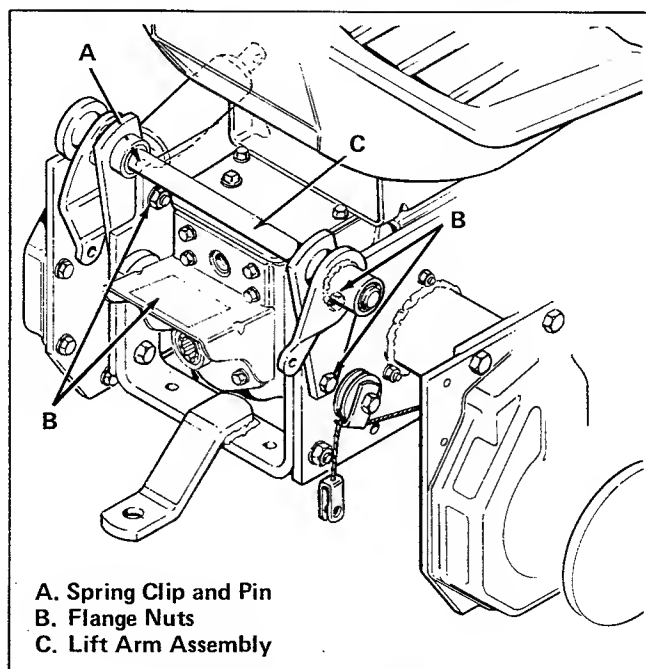

Figure 1. Lift Arm Assembly
1. Unhook rod end of hydraulic cylinder from lift arm assembly by removing spring clip and pin (item A, figure 1).